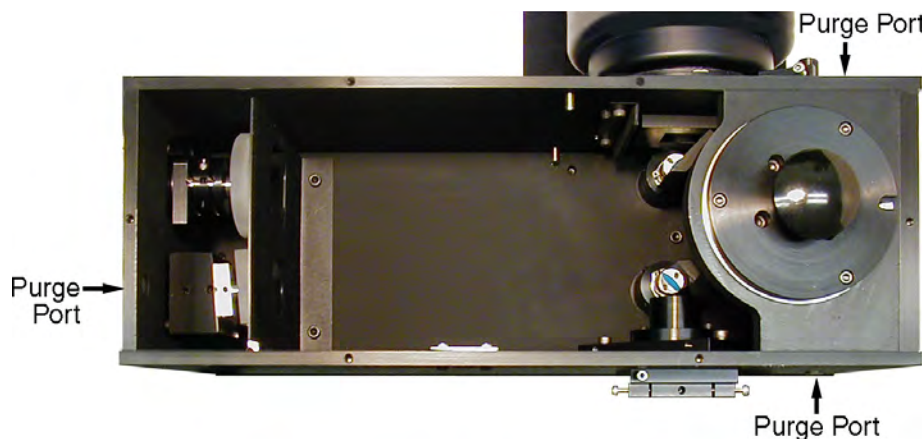

Figure 38. SpectraPro HRE Purge Ports
The SpectroPro HRE has three (3) 1/8" NPT purge ports to ensure that each compartment in the spectrograph is fully purged. To illustrate this, Figure 38 shows the spectrograph without its cover and denotes the location of each purge port.